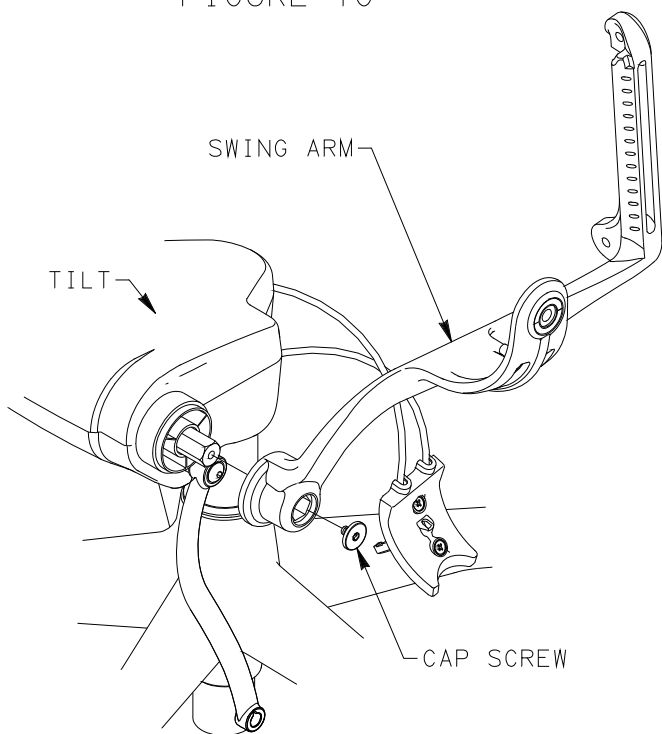

FIGURE 11
- CHAIRS MANUFACTURED BEFORE 9/16/96: USING T-40 TORX BIT AND RATCHET WRENCH, REMOVE CAP SCREW. REMOVE SWING ARM. PROPERLY DISPOSE OF SWING ARM AND CAP SCREW. SEE FIGURE 11.
-CHAIRS MANUFACTURED BEFORE 9/16/96: USING T-40 TORX BIT AND RATCHET WRENCH REMOVE AND PROPERLY DISPOSE OF CAP SCREW HOLDING SWING ARM TO TILT. REMOVE SWING ARM AND DISPOSE OF PROPERLY. SEE FIGURE 11.